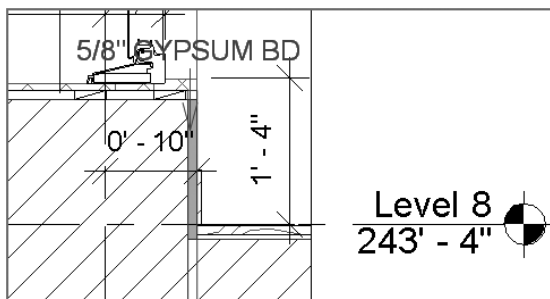

FIGURE 11.31 Using the Material tag
4. Now let's add a Material tag. Material tags let you tag materials consistently throughout the model. This means if you tag something like Concrete once in the model, the material will remember the tag you used and show that same tag every time you tag it in any other view. To add the tag, choose the Material Tag button from the Tag panel. With the tag selected, mouse over the vertical panel shown in Figure 11.31. The material there has been prepopulated with 5/8" GYPSUM BD as a tag through the material (from the Manage tab). Select the material, and place the tag.